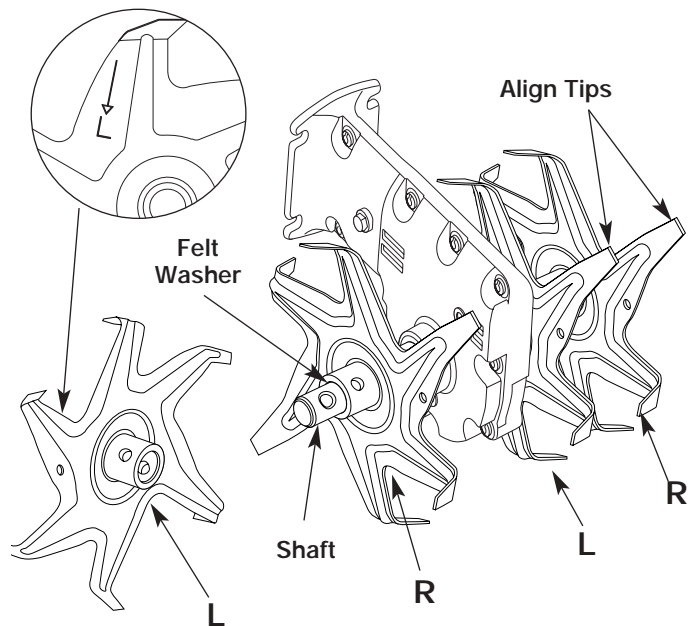

Fig. 12
- Ensure the tips on tines are aligned in the same direction with each other before reinstalling the clevis pins and pin clips (Fig. 12).